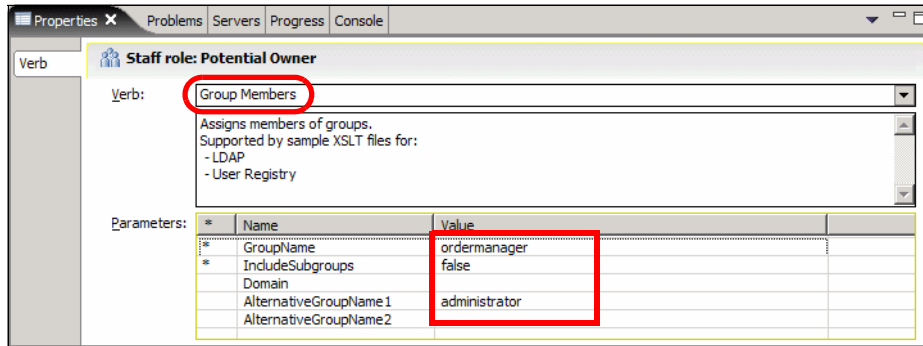

Figure 11-11 Human task properties
- Select *Potential Owner* and in the Properties view, select *Group Members* as the verb (Figure 11-11).